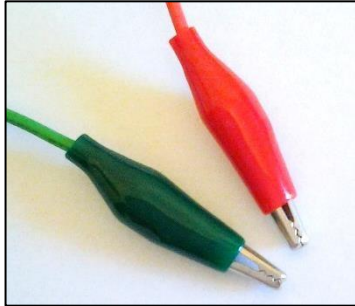

Figure 2. Crocodile clips.
- Crocodile clips (Figure 2) can be attached to a **component lead, wire, or another crocodile clip** for making electrical connections between the laboratory instruments and your circuit.